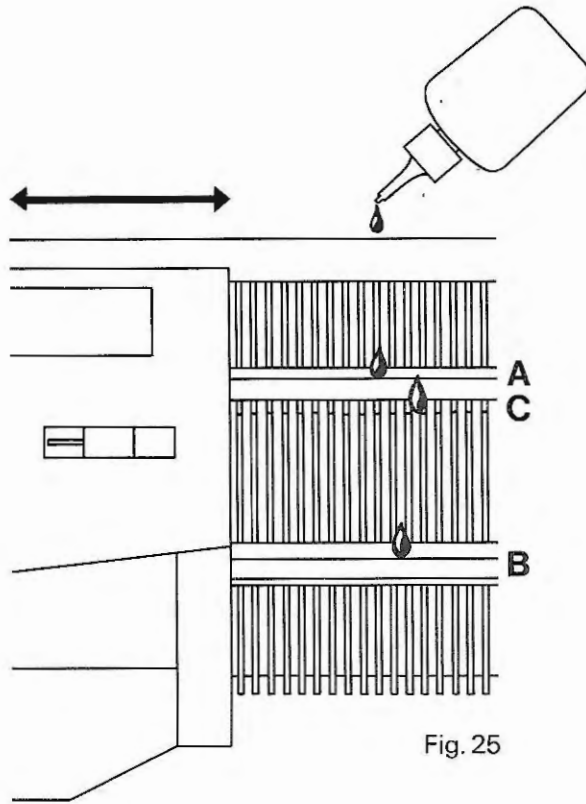

Fig. 25
Spread a few drops of oil on the lower (A) and upper (B) main rail as well as on the needle feet (C), fig. 25. Move the lock several times slowly from one side to the other, then leave it on the right.